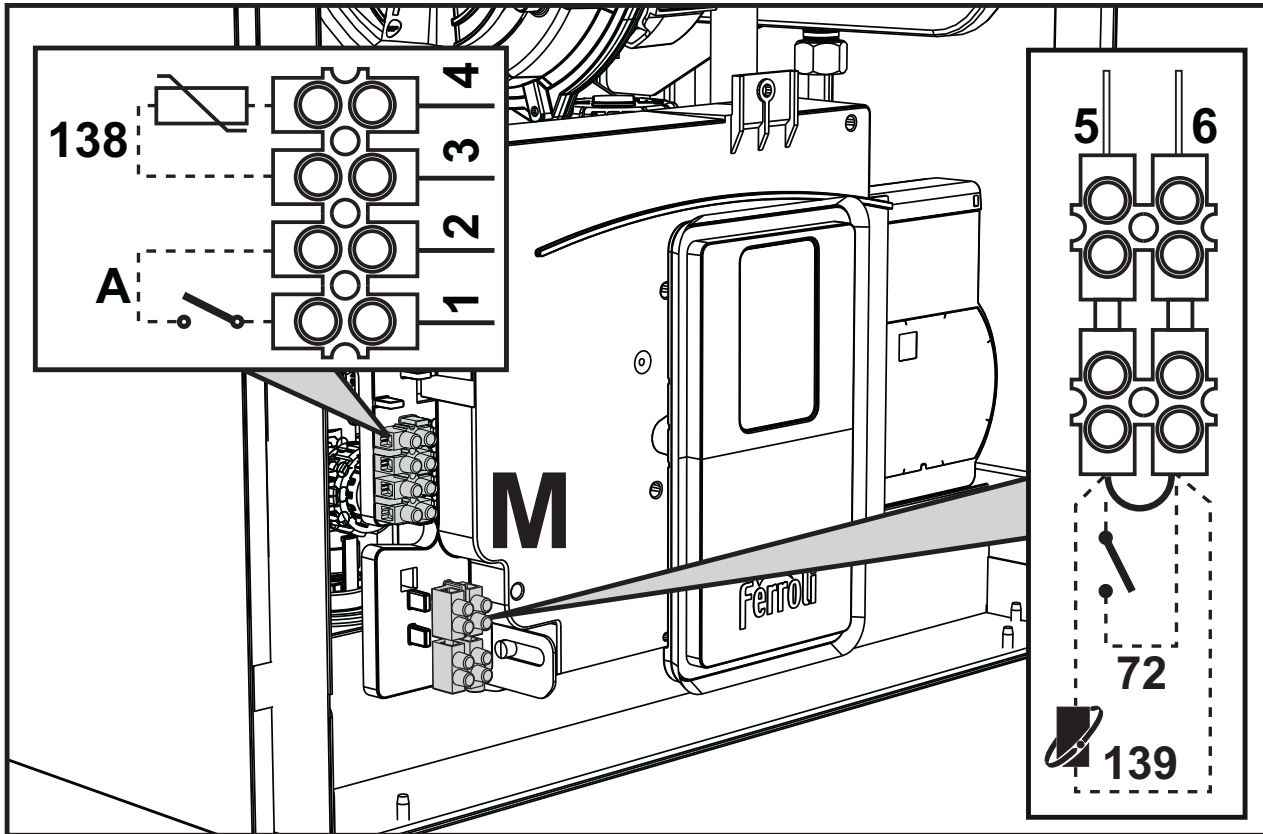
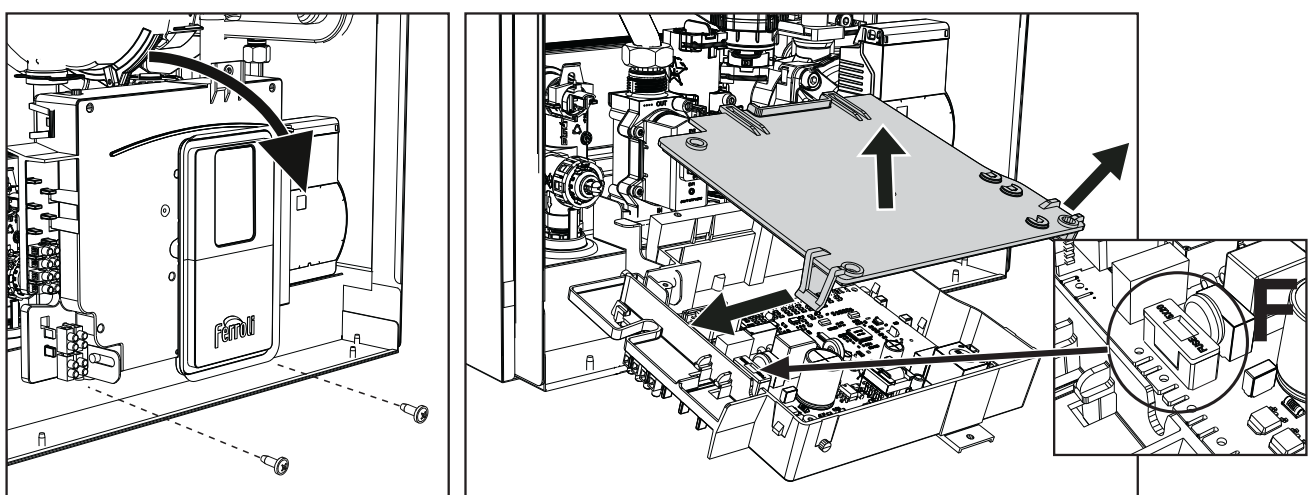

fig. 31
fig. 32
Remove the front panel ("Opening the front panel" on page 38) to access the terminal block (M) and fuse (F) by proceeding as follows (fig. 31 and fig. 32). **The terminals indicated in fig. 31 must be with voltage-free contacts (not 230V).** The arrangement of the terminals for the various connections is also given in the wiring diagram in fig. 70.
ON/OFF (A fig. 31) configuration